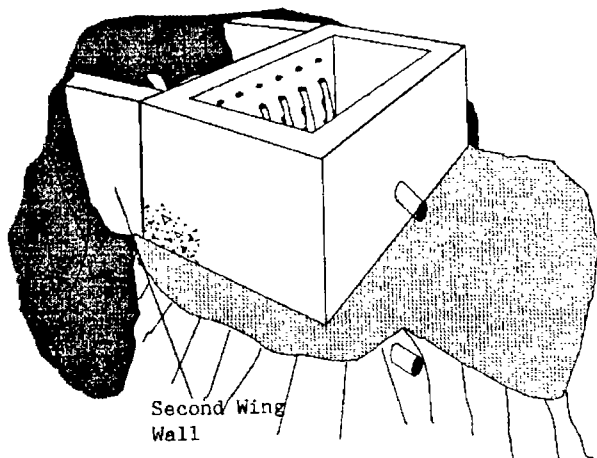

Figure 11. Second wing wall
- Divert the flow of the water so that it passes into the box and through the overflow pipe. Then construct the second wing wall on the other side, as shown in Figure 11.